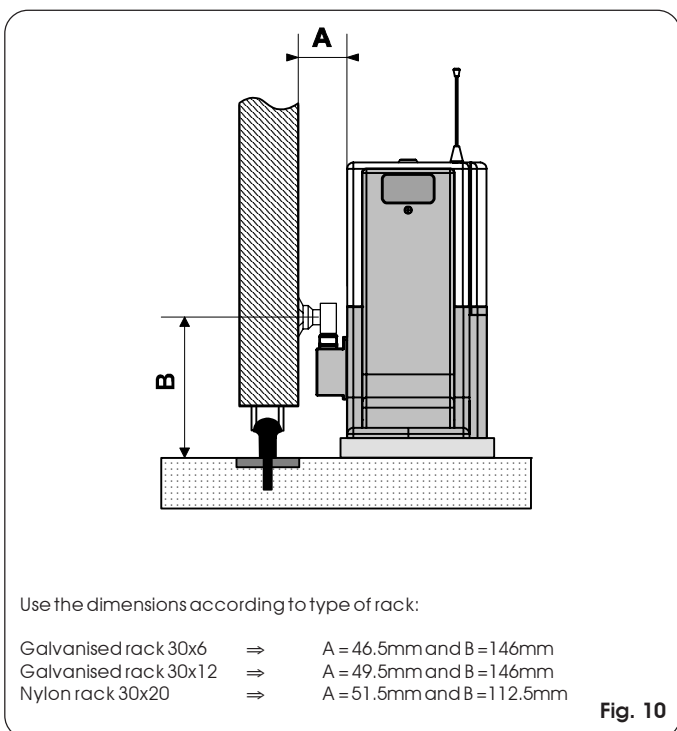

Fig. 10
- Adjust the distance of the operator from the gate by referring to Fig. 10.